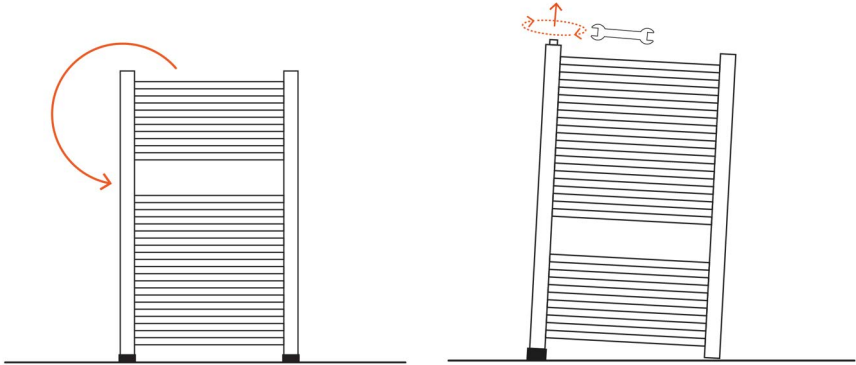

Figure 4 | Inlet tilted to its highest point before opening.
3. Tilt the towel rail until the fitting location is at the highest point, as shown in **Figure 4**. This prevents any fluid escaping if your towel rail is pre-filled.